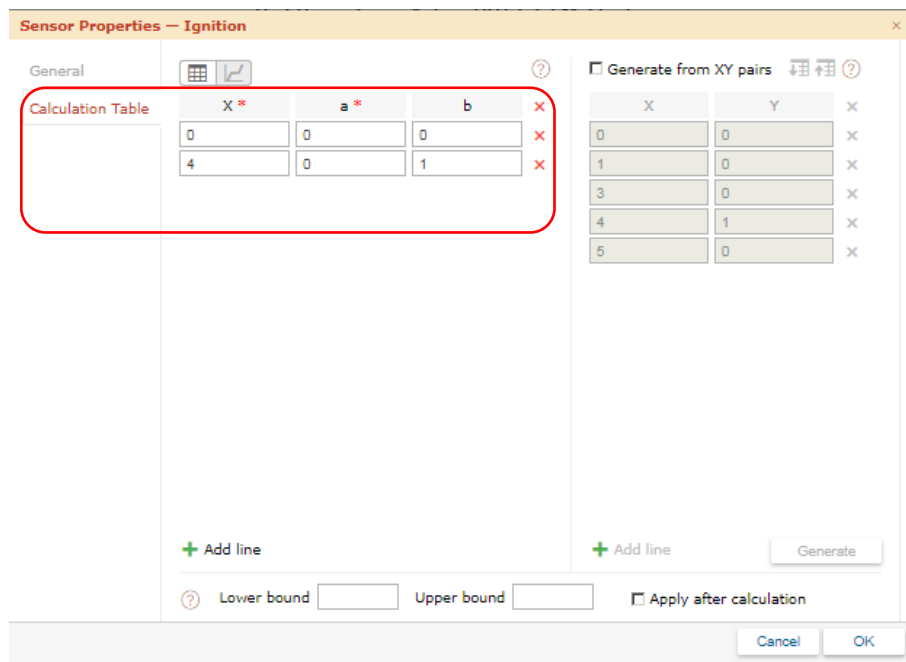

Figure 7 – Inputting values into Calculation table
7) Input values in Calculation table for engine ignition sensor. Value "4" corresponds to power supplying Vehicle from generator, "1" – low level of voltage, "0" – ignition is off (see figure 7).